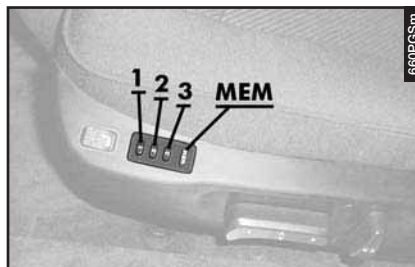

fig. 29
Memorising the driver's seat positions (fig. 29)
2) Simultaneously press (for about 1 second) the button (**MEM**-fig. 29) and one of the buttons (**1**), (**2**), or (**3**), each corresponding to a position that can be memorised.